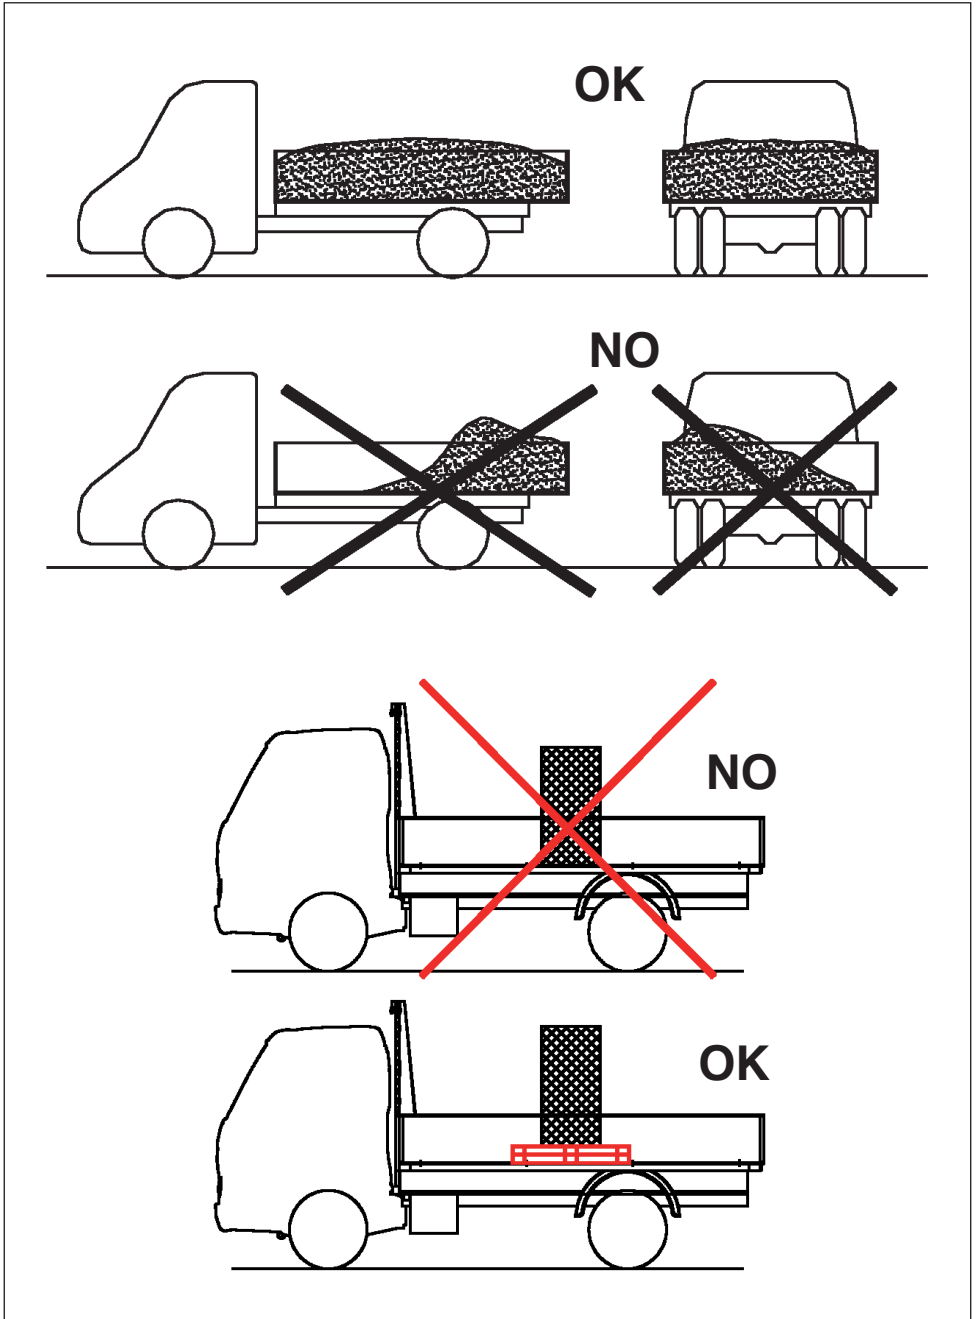

Fig. 1 Positioning of the load
- Make sure that the load in the trailer is uniformly distributed and that the tailboards are well shut in order to prevent the load, or part of it, from falling onto the road. For this purpose, refer to the diagrams contained in Fig. 1.